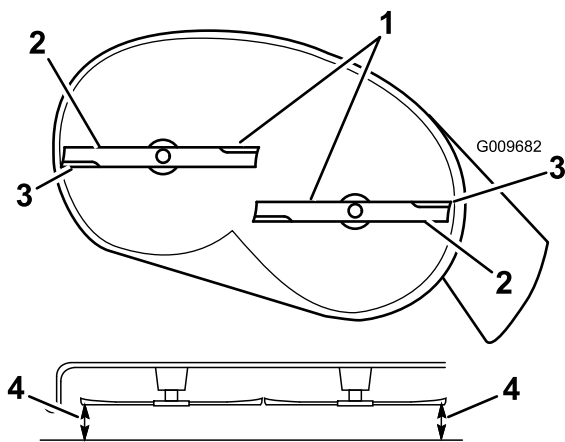

Figure 52
4. Carefully rotate the blades so that they are all side to side (Figure 52).
5. Measure between the outside cutting edges and the flat surface (Figure 52).